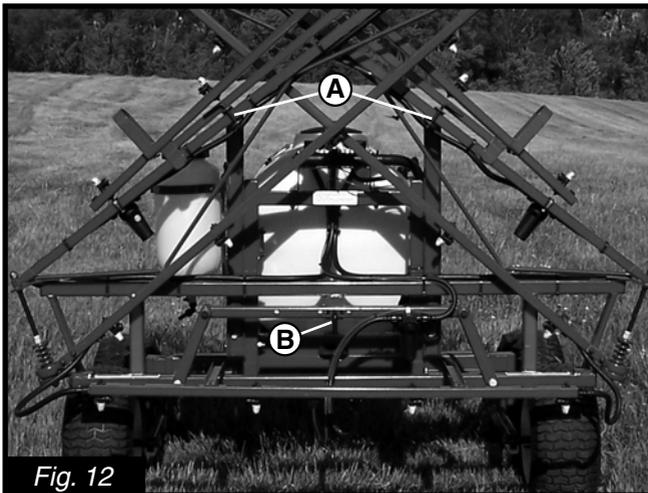

Fig. 12
1. Remove transport lock pins **A** (Fig. 12) and swing boom into operating position. Store transport lock pins in original locations so they don't get lost.
3. Remove trapeze lock pin **B** (Fig. 12) to allow for self-levelling boom feature (40' MB boom only).
1. Replace trapeze lock pin **B** (Fig. 12) in center position (40' MB boom only).
3. Remove transport lock pins **A** (Fig. 12) and fold boom into transport position. Secure with transport lock pins **A** (Fig. 12).